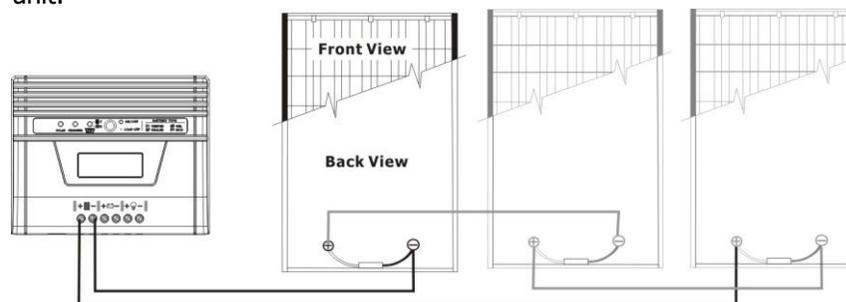

Fig. 8
**2) Multiple solar modules in series connection (Refer to Fig. 8):** All modules must be equal in voltage and amp hour capacity. The sum of their voltages must not exceed the maximum solar module open circuit voltage. And, the sum of their solar power must not exceed the maximum capacity of the unit.